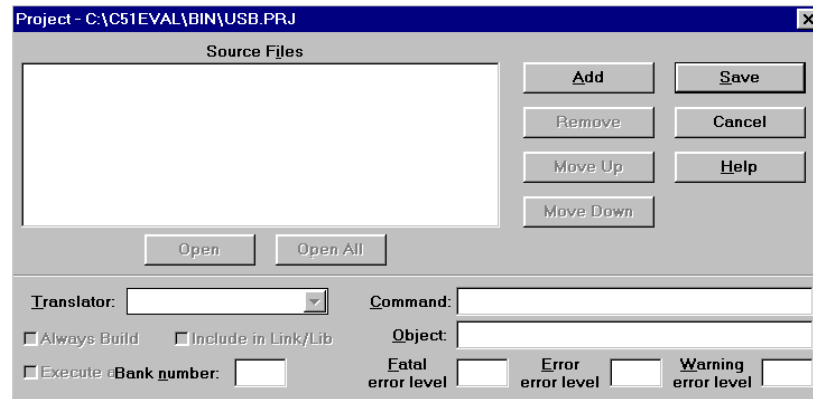

FIGURE 7
- 1) Open the Project menu and choose *Edit Project*. The window shown in Figure 7 appears. This is where you add various files to your project. Note there are no files in the project yet.